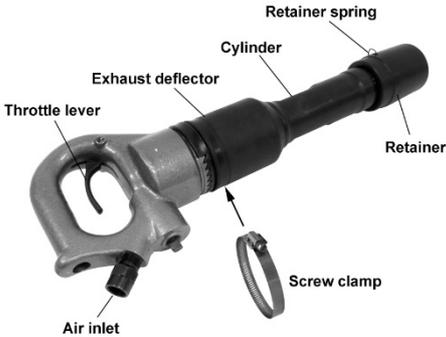

Figure 1
1. Rotate exhaust deflector (Figure 1) until exhaust holes point away from operator and bystanders.
7. Remove protective cap from air inlet (Figure 1). If an in-line oiler is not being used, add 4 or 5 drops of air tool oil (not included) into the air inlet.